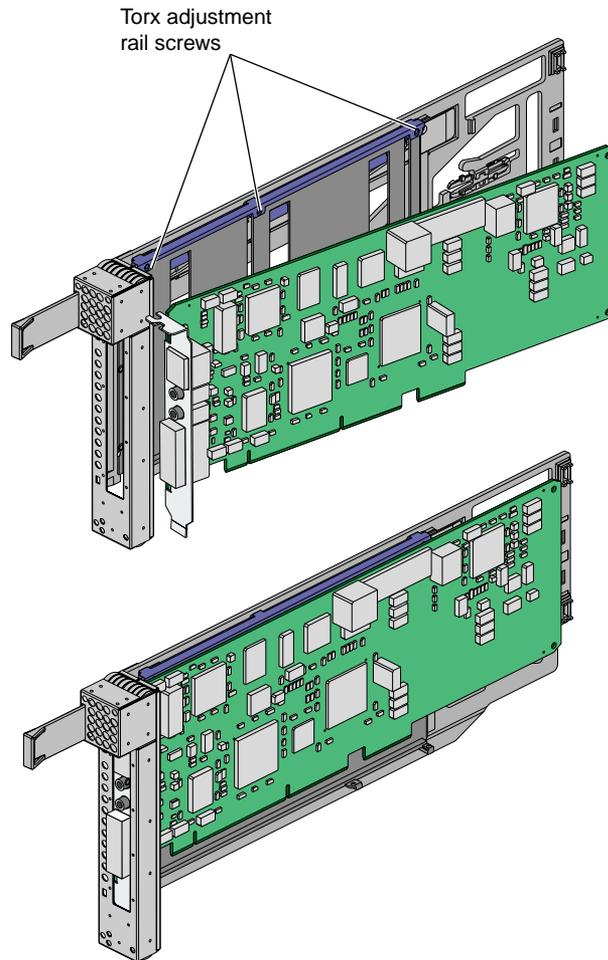

Figure 2-4 Mounting PCI Card Into Carrier
4. Tighten the three T8 Torx adjustment rail screws to secure the card in the carrier. Refer to Figure 2-4.